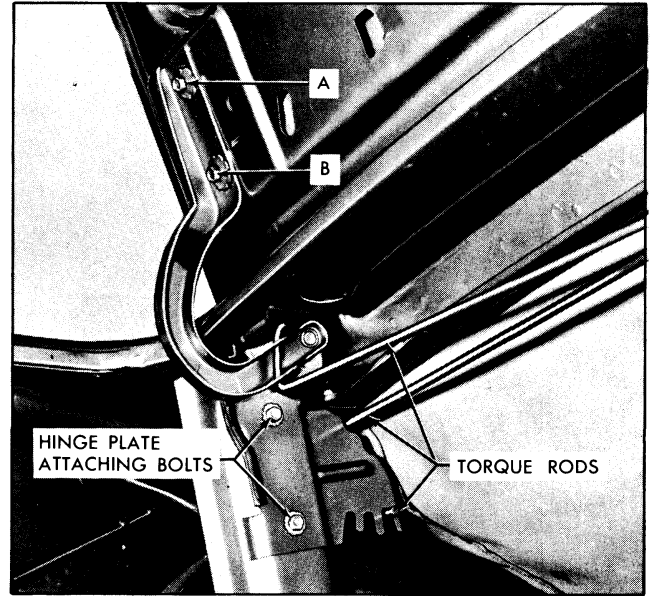
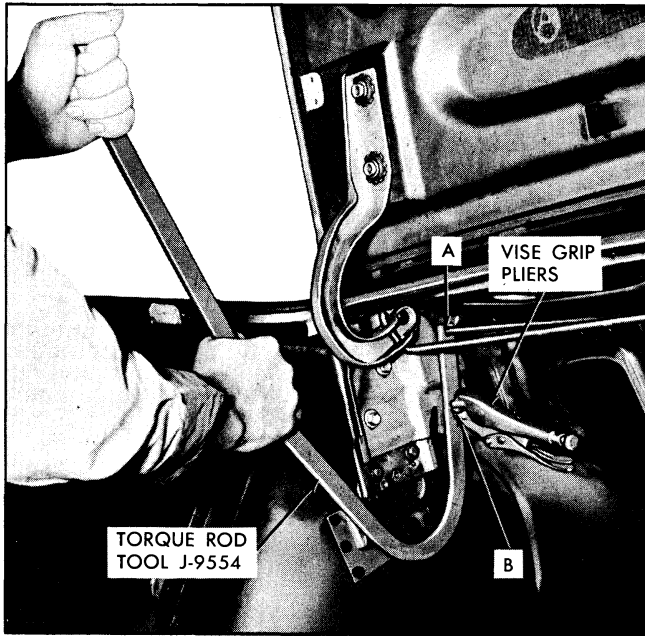

Fig. 15-5 Trunk Lid on 67 Style
Fig. 15-6 Trunk Torque Rod Adjustment
1. To adjust compartment lid forward or rearward, or from side to side in body opening, loosen hinge strap attaching bolts "A" and "B" (Fig. 15-5) on both sides of lid; adjust lid as desired, then tighten bolts.
2. To adjust front of compartment lid up or down loosen hinge plate attaching bolts (Fig. 15-5), adjust lid up or down as desired and tighten bolts.
The amount of effort required to open and close the rear compartment lid is determined by the position of the torque rods in the notches on the hinge mounting plate (Fig. 15-5). If the torque rod is located in the most forward notch, the effort required to open the lid is the greatest and the effort required to close the lid is the least. If the torque rod is located in the most rearward position, the effort required to open the lid is the least and the amount of effort required to close the lid is the greatest. Fig. 15-6 illustrates how to use tool J-9554 to perform these adjustments.
2. Engage notch in end of tool J-9554 with torque rod to be adjusted ("A", Fig. 15-6). Engage hole in tool with "return crank end" of same torque rod ("B", Fig. 15-6).
4. Disengage torque rod from hinge plate by raising tool with one hand and holding it firmly against hinge plate with other hand (Fig. 15-6). Adjust torque rod to desired position, or remove rod completely.
2. Scribe location of hinge strap on lid inner panel and remove bolts "A" and "B" (Fig. 15-5) securing hinge strap to lid.
3. Disengage torque rods from hinge mounting plates using torque rod removing tool No. J-9554. Scribe location of hinge plate on hinge brace. Remove hinge plate attaching bolts (Fig. 15-5) and remove hinge from body.